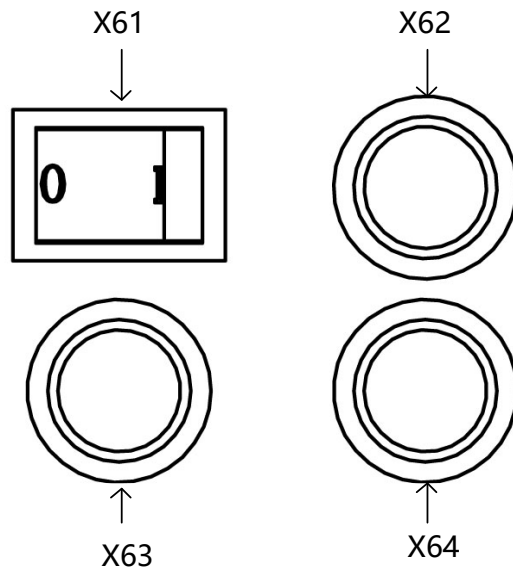

Figure 5-3 Manual release brake button
- The manual brake release button is located in the manual brake release box on the right side of the control cabinet panel. After unscrewing the four screws on the cover plate of the brake release box, you will see the brake release button shown in Figure 5-3.
The button names and functions shown in Figure 5-3 are shown in Table 5-1: